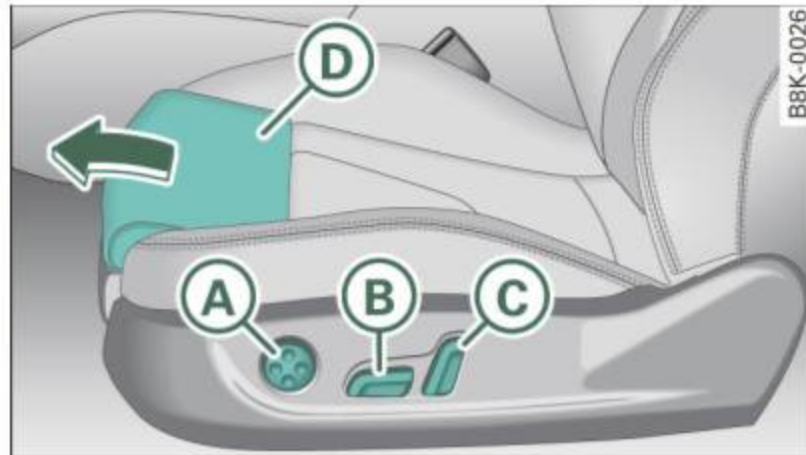

Fig. 70 Front seat:
- Push the switch (B) forward or backward ⇒ fig. 70.